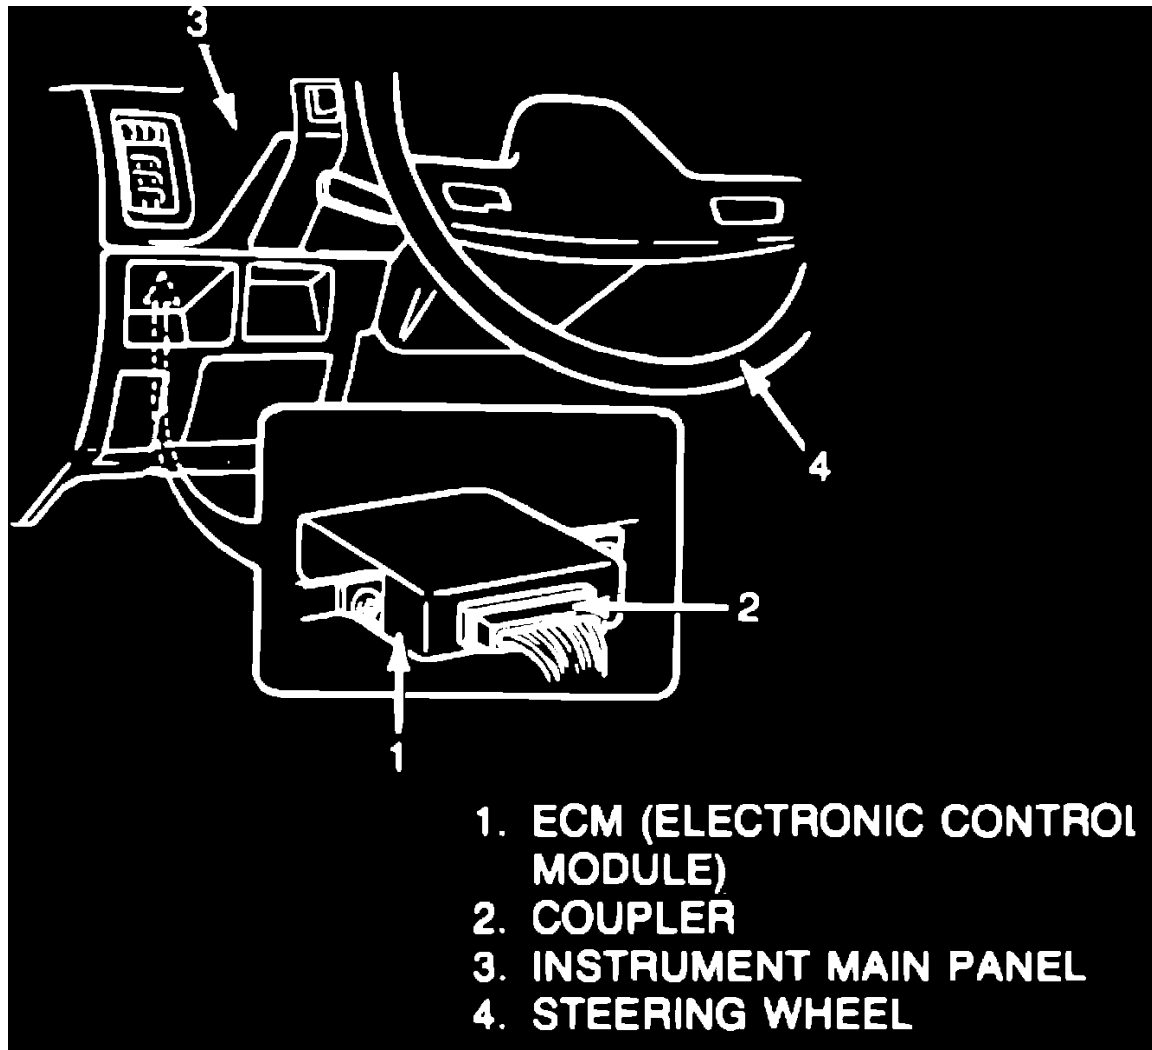

Fig. 26 ECM installation
1. Remove ECM from instrument panel, **Fig. 26**, leaving connector connected.